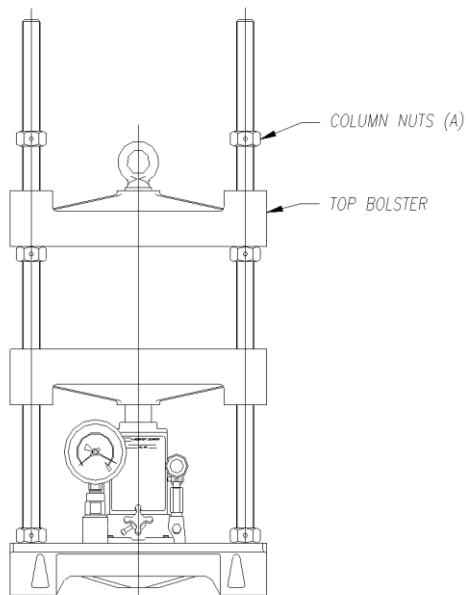

FIGURE 4-4
4. Move the upper column nuts (A) to the position required creating the desired daylight (FIG 4-4).